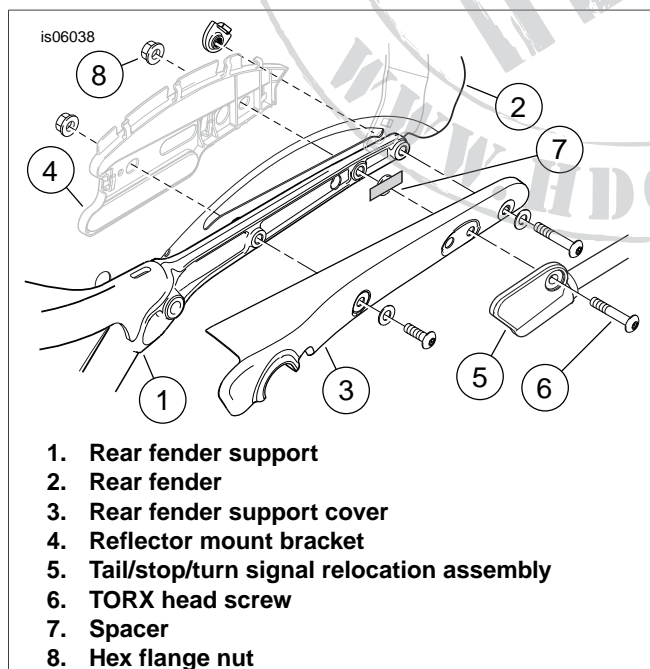

Figure 4. Rear Fender Assembly
- See Figure 4. Get the rear fender support covers (3) removed earlier, the STT relocation assembly (5) from the previous section, and two 5/16-18 TORX® button head screws (6), spacers (7) and hex flange nuts (8) from the kit.